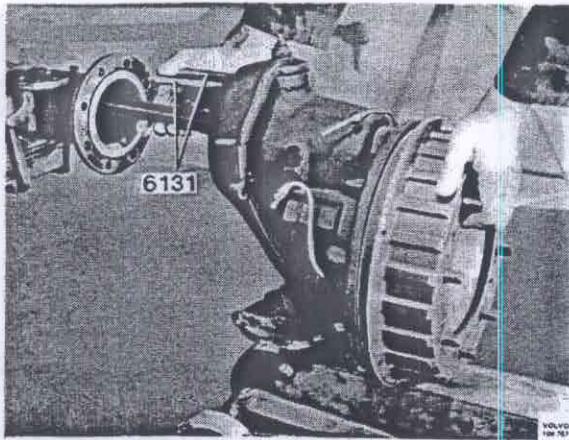

Fig. 63-5. Removing the wheel carrier
8. Remove the upper bolts and pull out the wheel carrier and drive shaft, see Fig. 63-5. NOTE! Observe care so that the rubber bellows do not get clamped between the drive shaft and steering knuckle support.